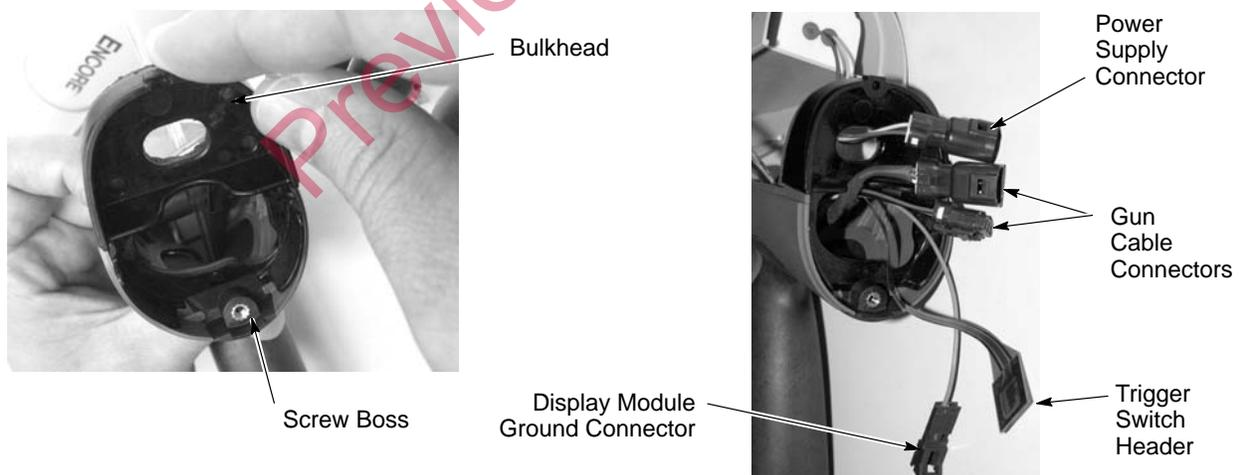

Figure 5-13 Assembling Bulkhead and Routing Cables
14. See Figure 5-13. Position the lower edge of the bulkhead (8) behind the screw boss in the rear of the handle assembly and rotate the top of the cover forward until it snaps into place on the handle and gun body.
15. Feed the power supply J2 connector through the top opening in the bulkhead (8).